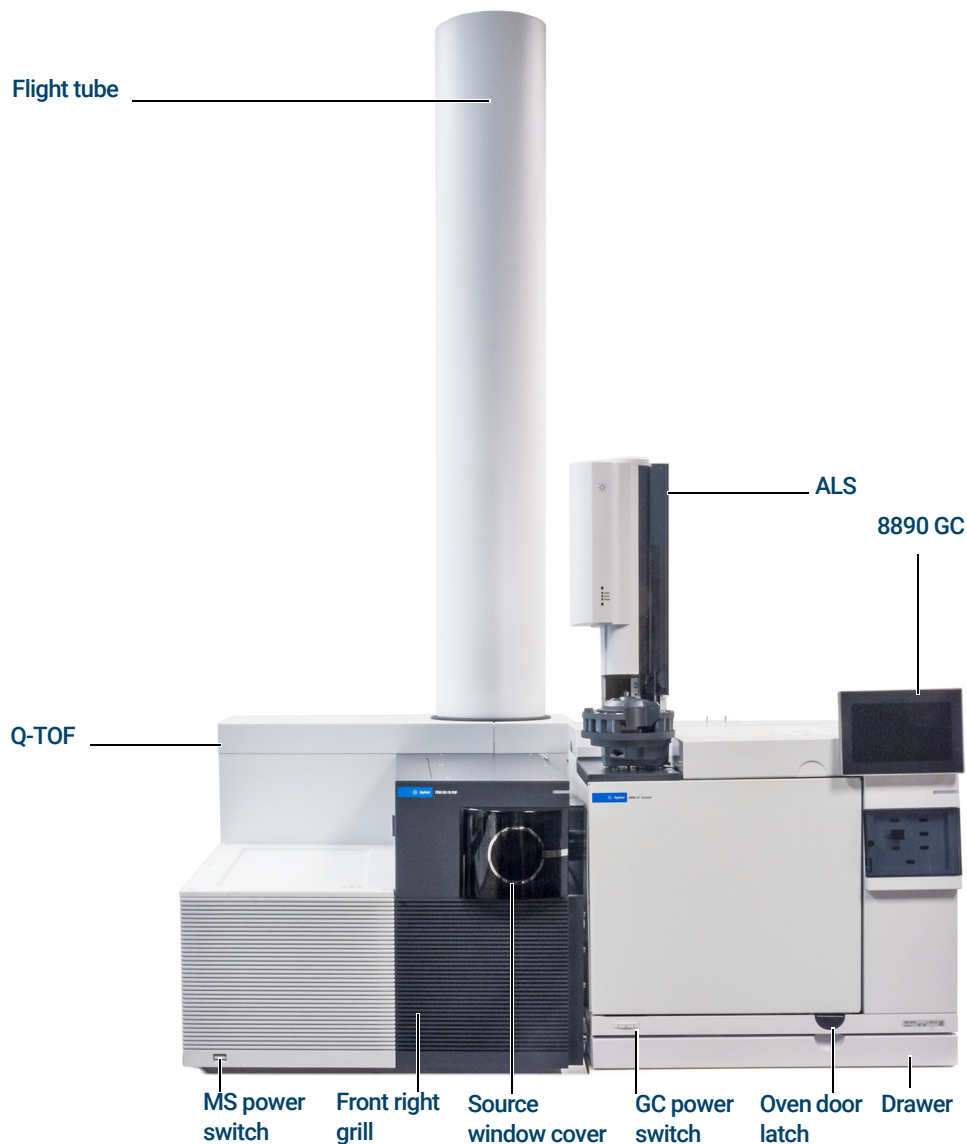

Figure 1. 7250 Accurate-Mass Q-TOF and 8890 GC/MS system
**Figure 1** is an overview of a typical Agilent 7250 Accurate-Mass Q-TOF GC/MS system.